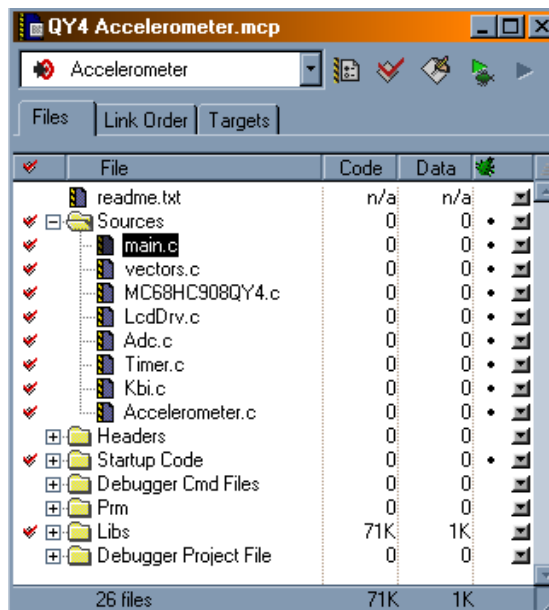

Figure 1-6. Project Window for Demo Software
4. Double-click on the QY4_Accelerometer.mcp file name. The CodeWarrior project will open (see Figure 1-6).